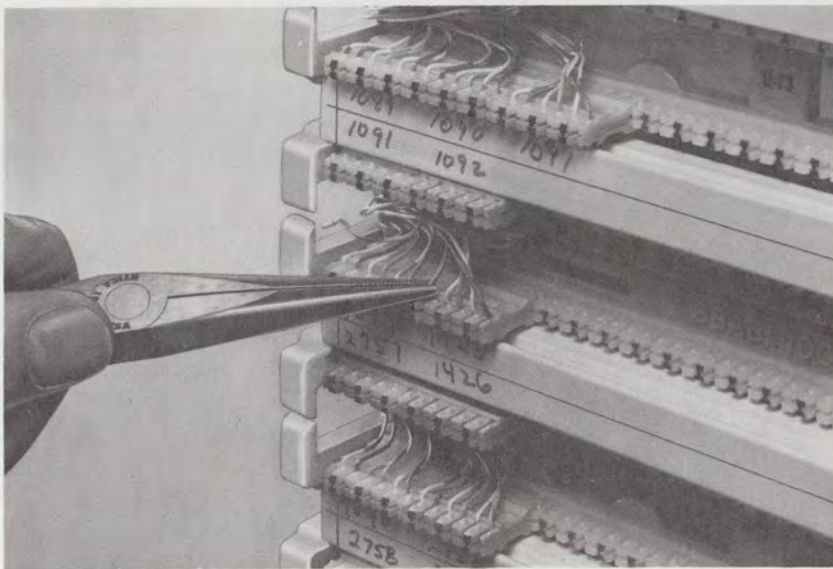

Fig. 26—Removing Cross-Connect Wire
**3.23** To remove a cross-connect wire, use long-nose pliers to grip the wire where it enters the connecting block (Fig. 26) and pull straight out. Remove any fragments of insulation remaining on the clip or its cavity using a KS-6320 orange stick.